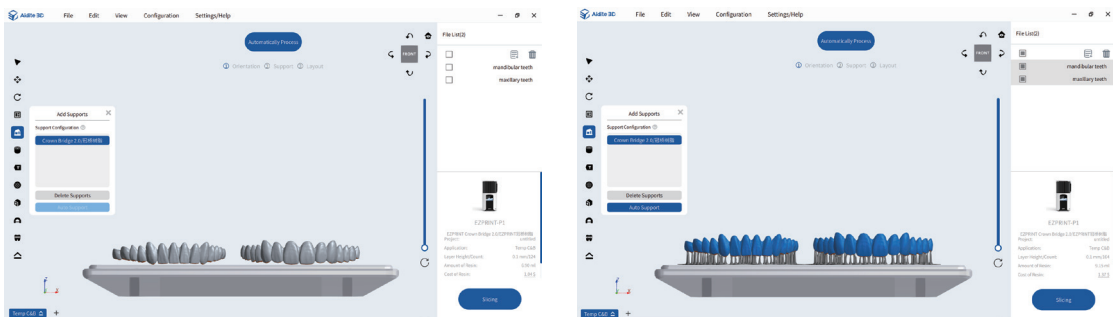
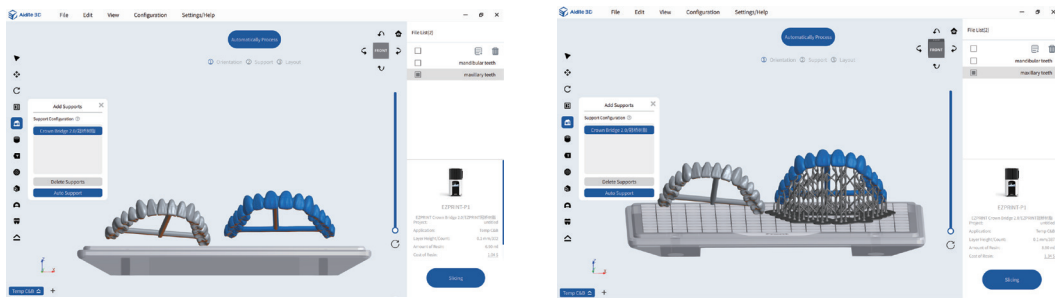

Figure 5
Figure 6
(4) Add support: Click the support dialog box Figure 5, select “automatic support” Figure 6.